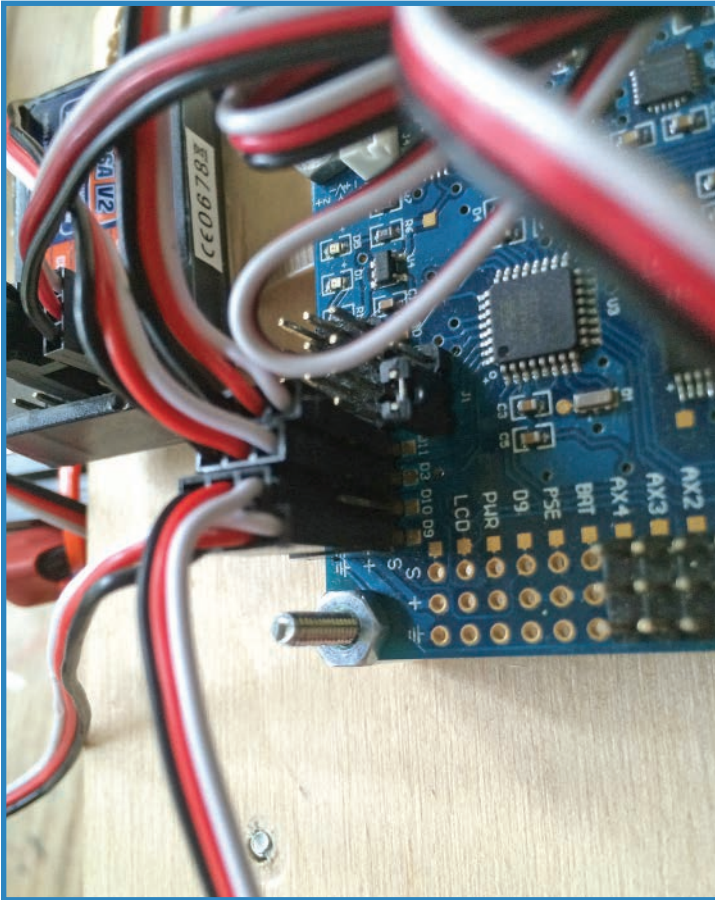

FIGURE 10.20 Connect the ESCs to the flight controller.
2. Connect the ESCs' triple wires to the FC. Plug the wires into the pins marked D9, D10, D3, and D11 on the MultiWii, making sure to keep the black wire toward the edge of the flight controller's PCB. It should look like Figure 10.20.